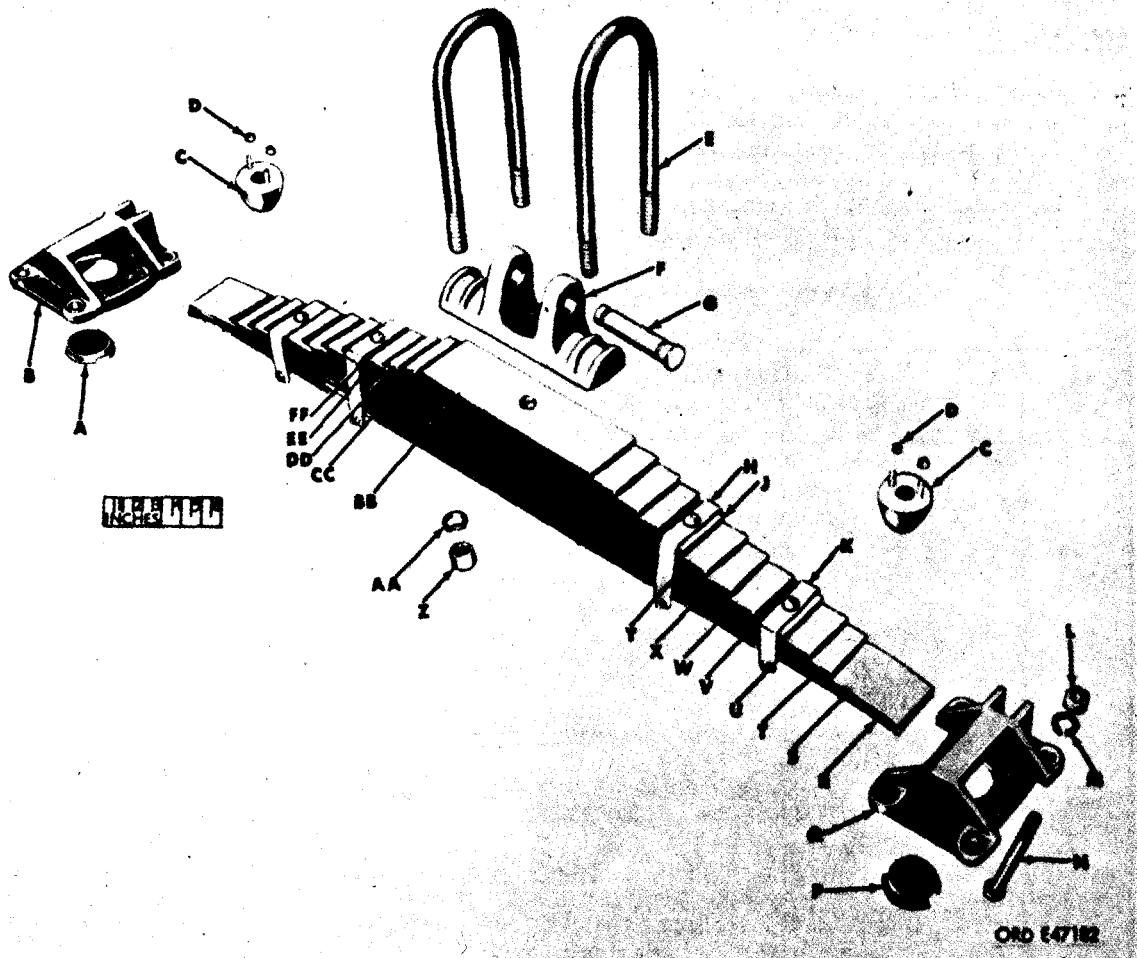

Figure 393. Rear spring and mounting parts - exploded view
(1) Spring leaves (fig. 393). Make sure that all rust has been removed from spring leaves. Apply a small amount of powdered graphite to each side of spring leaves. Assemble leaves, starting with the longest spring leaf. Aline holes for center bolt.
(2) Install center bolts. Place the assembled spring leaves in arbor press or install heavy C-clamps. Compress leaves tightly together, and install center bolts.